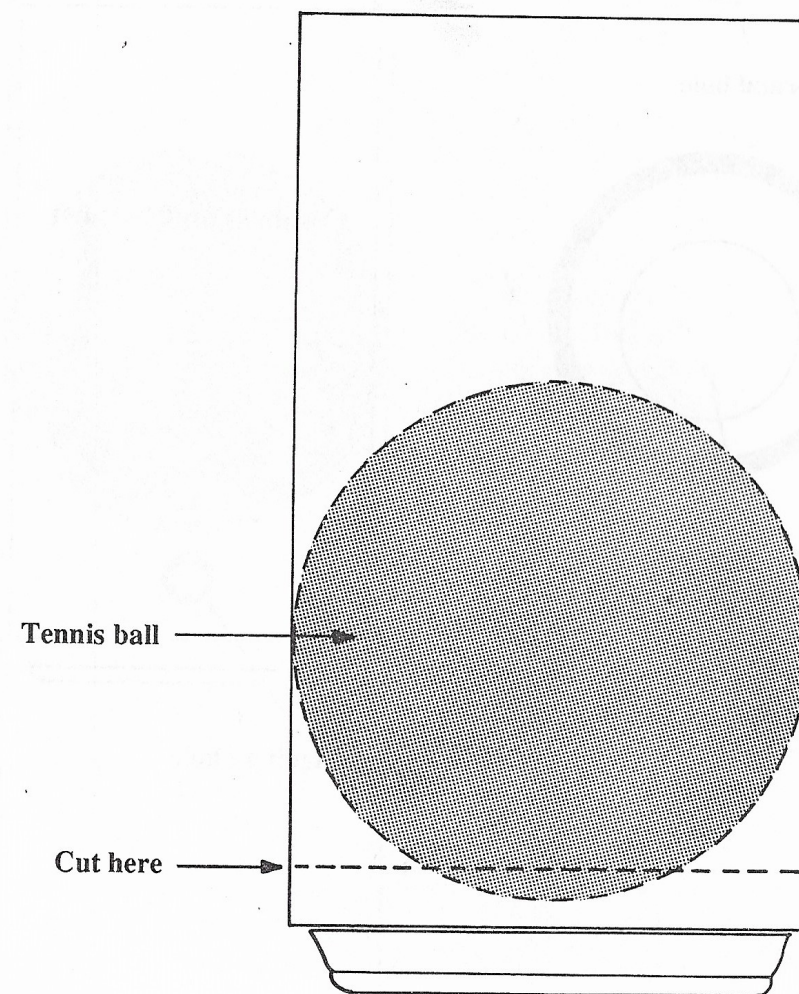

Figure 4
4. Next, the bottom needs to be cut off. At this point, the aluminum can will be very flimsy. Insert the tennis ball into the can, pushing it all the way to the back. This gives the can added support while you cut the bottom off. (See Figure 4.) In a manner similar to the top, draw a line all the way around the can, about  $\frac{1}{4}$ " from the bottom. Cut off the bottom along this line and smooth the edge as was done on the top.